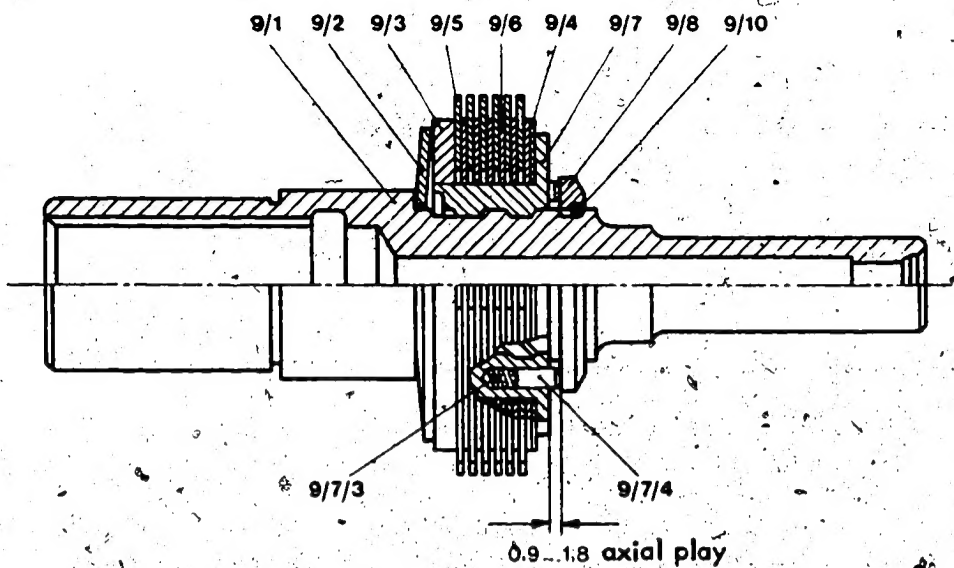

Fig. 1 Multiplate clutch
Fig. 1 old type
- 1.1. The complete multiplate clutch remains unchanged in terms of installation. The following components are modified (see Figs. 1 ... 3 and the specified item numbers on the service-parts microfiche):